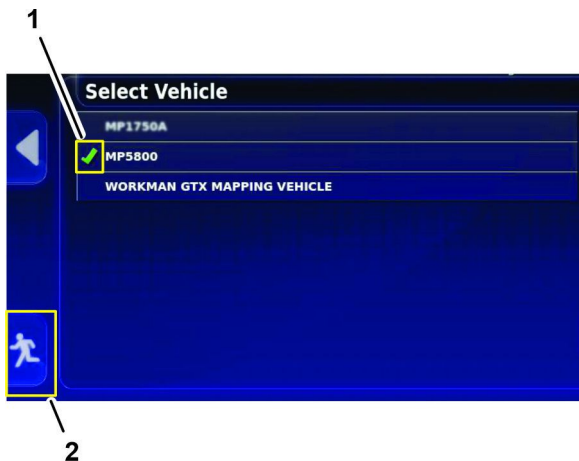

Figure 204
Note: The control console restarts and displays the sprayer vehicle selected (Figure 204).
4. Press the EXIT SETUP icon (Figure 204).